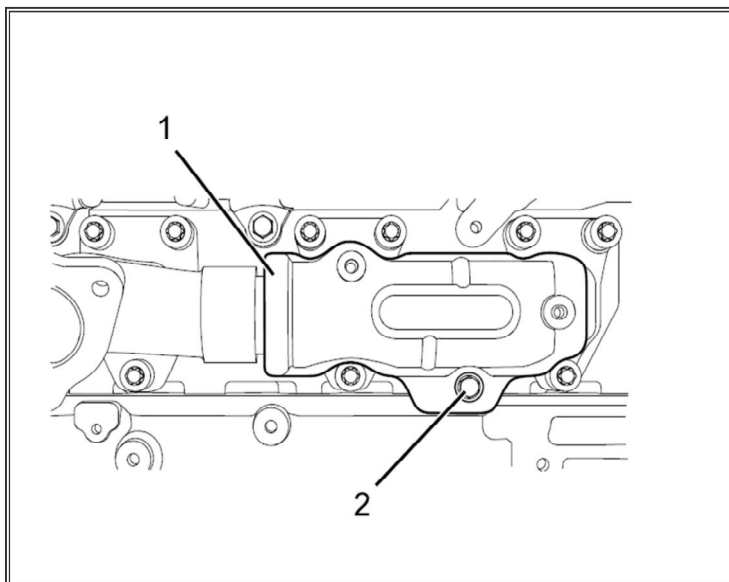

Figure 24: Exhaust Manifold Heat Shield
25. Remove exhaust manifold heat shield (Figure 24, Item 1)